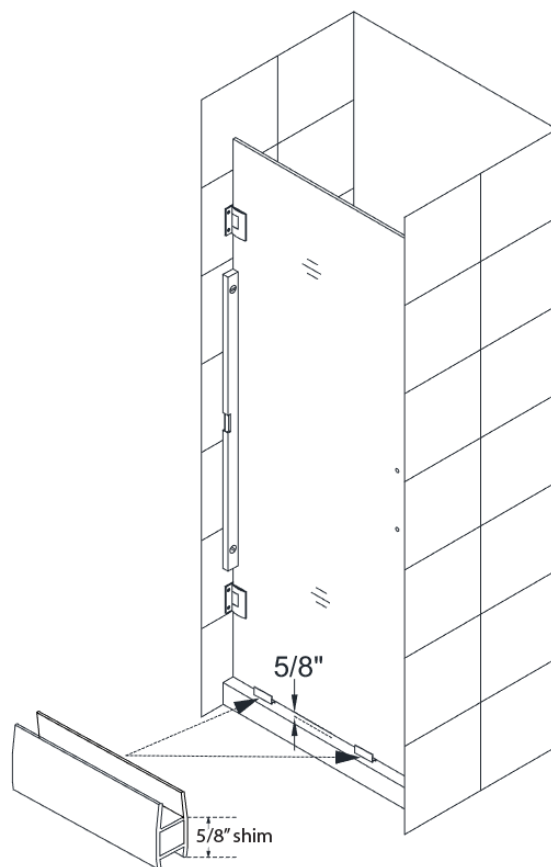

Fig. 2
2. The **Door Glass (01)** ships with four 5/8" shims attached to the top (2pcs) and bottom (2pcs). Determine the swing of your door and only remove the shims from the top of the door glass, leaving the bottom shims in place. Set the **Door Glass (01)** onto the threshold at the desired location and check for level. These 5/8" shims will leave the proper spacing at the bottom of the door glass and will ensure that the door height finishes at 72", but always confirm with a measurement. Carefully butt the door with the hinged side against the wall, adjust its position and check for plumb with a level. **(Fig 2)**